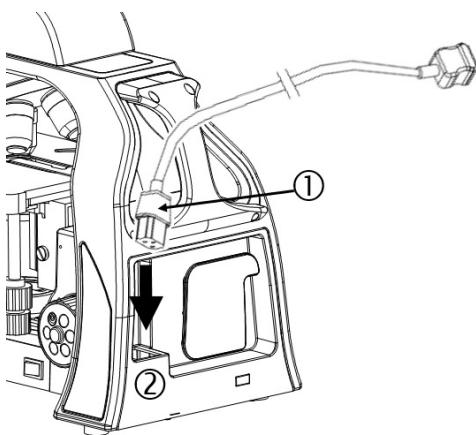

Fig. 6
2. Insert the connector ① of power cord securely into the power socket ②, (see Fig. 6).